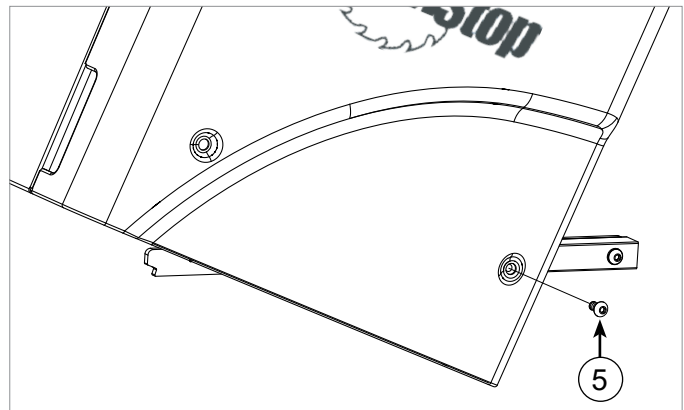

Fig. 27
9. Align the front end of the caster support with the mounting hole in the lower right corner of the front of the cabinet and secure that end of the caster support to the cabinet with an M8 x 20 button head shoulder socket bolt (see Fig. 27). Note that this bolt is different than the bolt used to secure the rear of the caster support to the cabinet. Fully tighten the bolt using a 5 mm hex key.